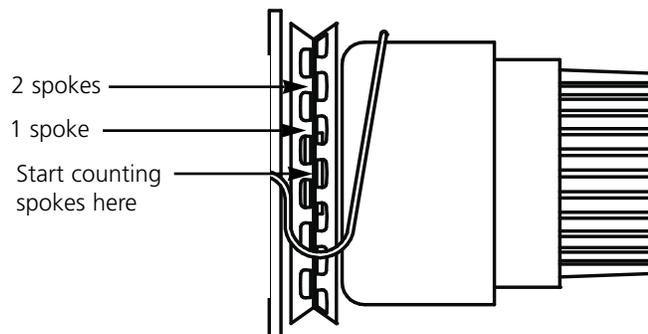

Figure 5-16
3. Rotate the thread tensioner clockwise the distance of 2 spokes on the disk (approximately 42°). See Figure 5-16.